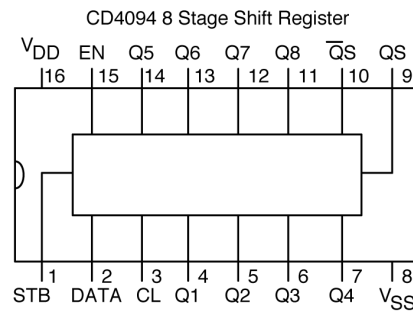

Figure C-8. CD4094 eight-stage shift register IC diagram
The CD4094 eight-stage shift register, shown in Figure C-8, contains an eight-stage shift register whose outputs are fed to an 8-bit latch. Logic data presented to the chip's Data input (DATA) is serially shifted through the shift register on the positive edges of the chip's Clock input (CL). The states of the internal shift registers can be latched to the chip's internal 8-bit latch by applying a negative edge to the Strobe input (STB). The eight internal latched outputs feed eight internal tri-state buffers that present the data to their outputs (Q1 thru Q8) whenever the Output Enable input (EN) is at logic 1. A three-state output can be logic 1, logic 0, or a special third state, *floating*, which acts as if the output has been disconnected.